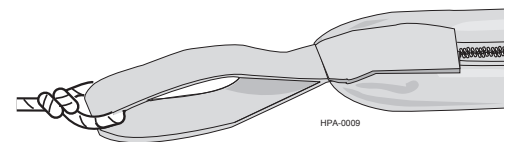

Figure 5 — Pull Line
**Step 3:** Attach a pull line to the pulling loop at the end of the sleeve (Figure 5).